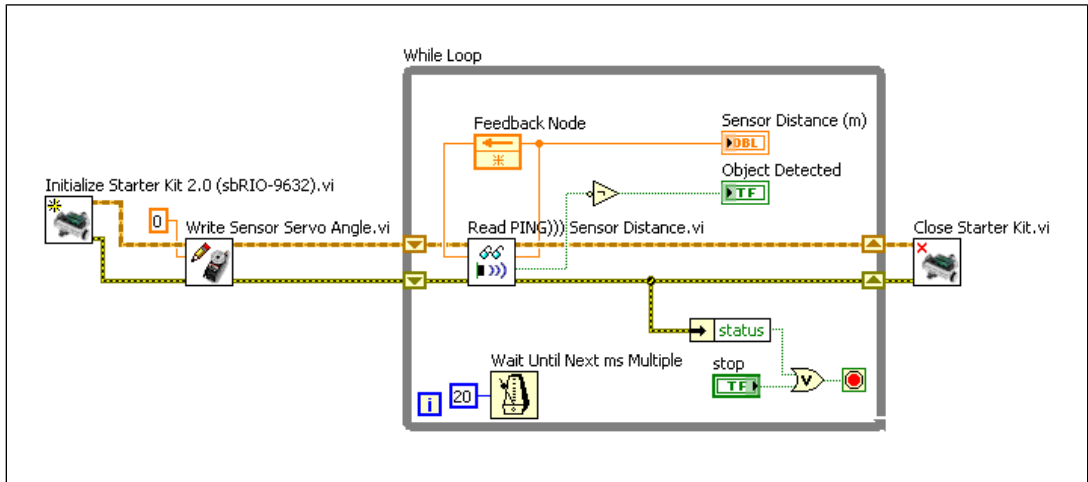

Figure 5. Block Diagram of the Test Ultrasonic Sensor VI
2. Select **Window»Show Block Diagram** to display the block diagram of the VI, as shown in Figure 5.